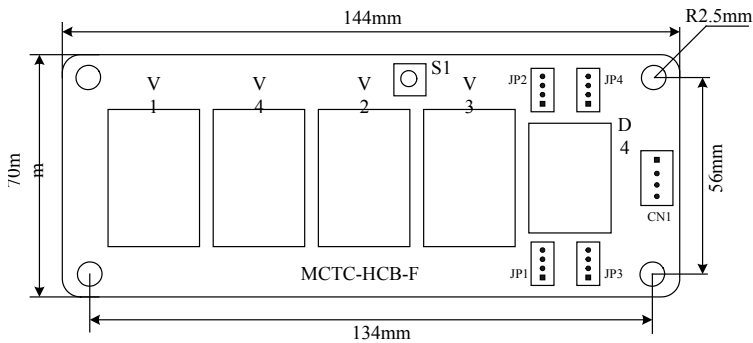

Fig 3-13 Installation size of MCTC-HCB-F
1) Appearance and size (Shown as Fig 3-13)